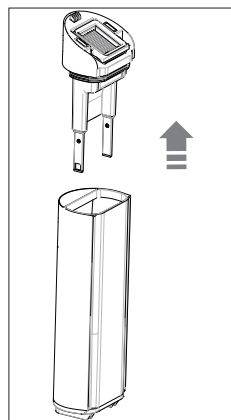

Fig. 9 – Removing the cap
- ▶ Pull the cap of the recovery tank upwards and remove (see Fig. 9).